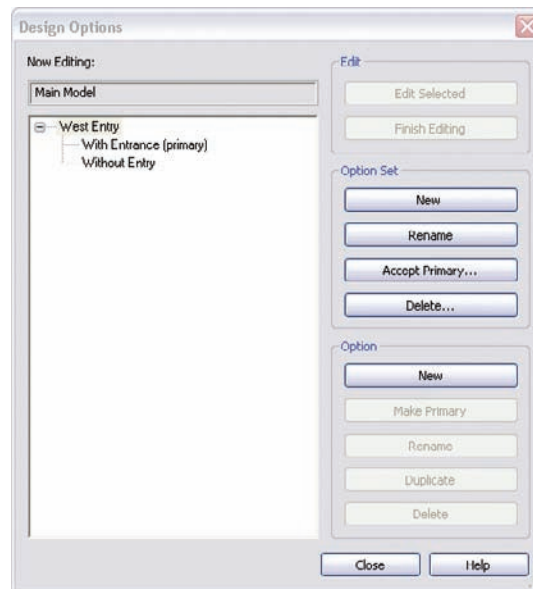

FIGURE 21.24 Adding options
10. Rename the new option **Without Entry** (see Figure 21.24).